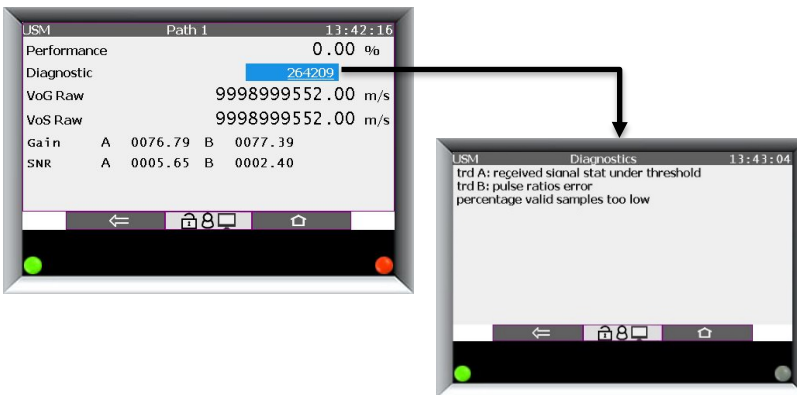

Figure 7-14: Per Path
**Per Path** provides an overview of all paths and the current performance of each individual path can be checked. By choosing an individual path, for example Path 1 has been selected in Figure 7-14. You can view the performance %, diagnostic details (by selecting the hyperlink), VoG and VoS of that path.